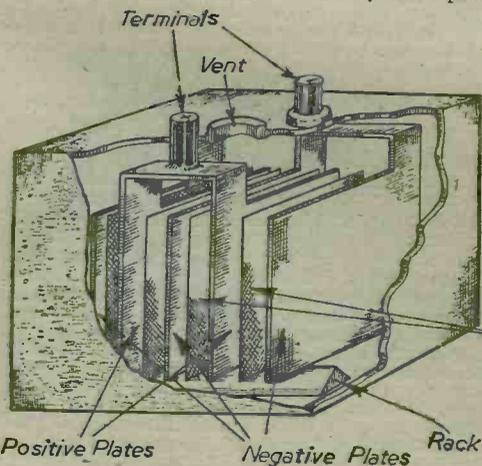

Fig. 3.—The fundamental assembly features of a lead-acid type accumulator.
*Method of Arranging Plates in the Cell.*—All negatives are connected to one bus-bar, and all positives to another; a terminal post attached to each bar carries the external connection. The two sets of plates are interleaved and separated from each other by porous insulating separators (Fig. 3). The whole assembly of the plates rests upon two ridges on the bottom of the container, thereby preventing the short-circuiting of the bottom of the plates against the conducting sludge that accumulates.